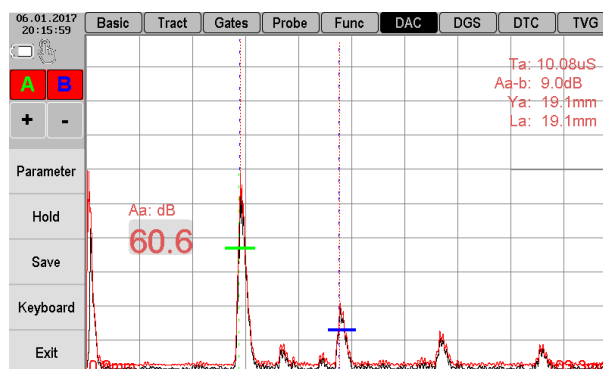

Figure 2.45 – Overlapping of B-gate on the second reflected signal
9. Overlap B-gate on the second echo (Figure 2.45), and turn on displaying of difference between signal amplitude values in A-gate and B-gate – Aa-b.